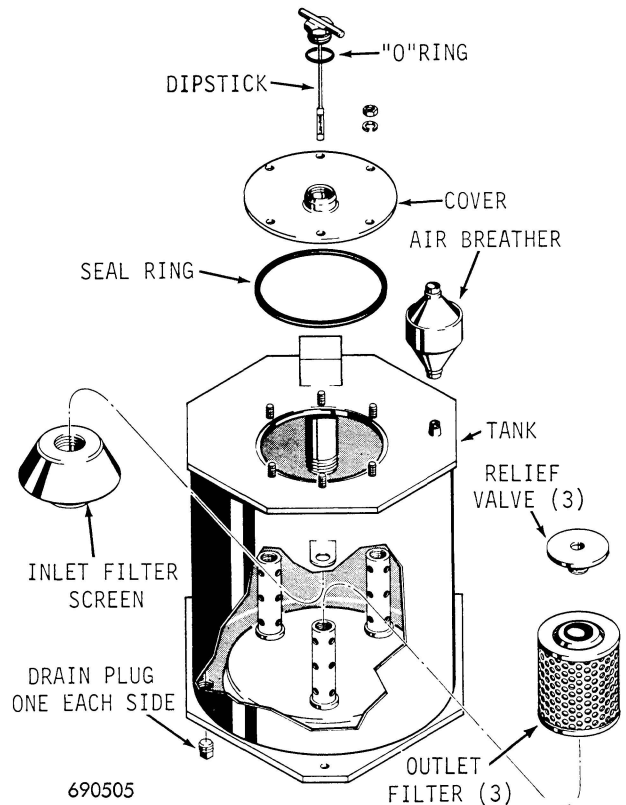

Figure 7
**FILTERS** - See Figure 7. Make sure air valve to reservoir is closed and air pressure in the reservoir has been released. Remove reservoir top cover and gasket. Discard gasket. Remove the two drain plugs on the bottom of the reservoir. Remove the inlet filter screen and clean in a cleaning solvent. Remove the relief valves that hold the three outlet filter elements. Remove and discard filter elements. Clean inside of reservoir with a lint free cloth.